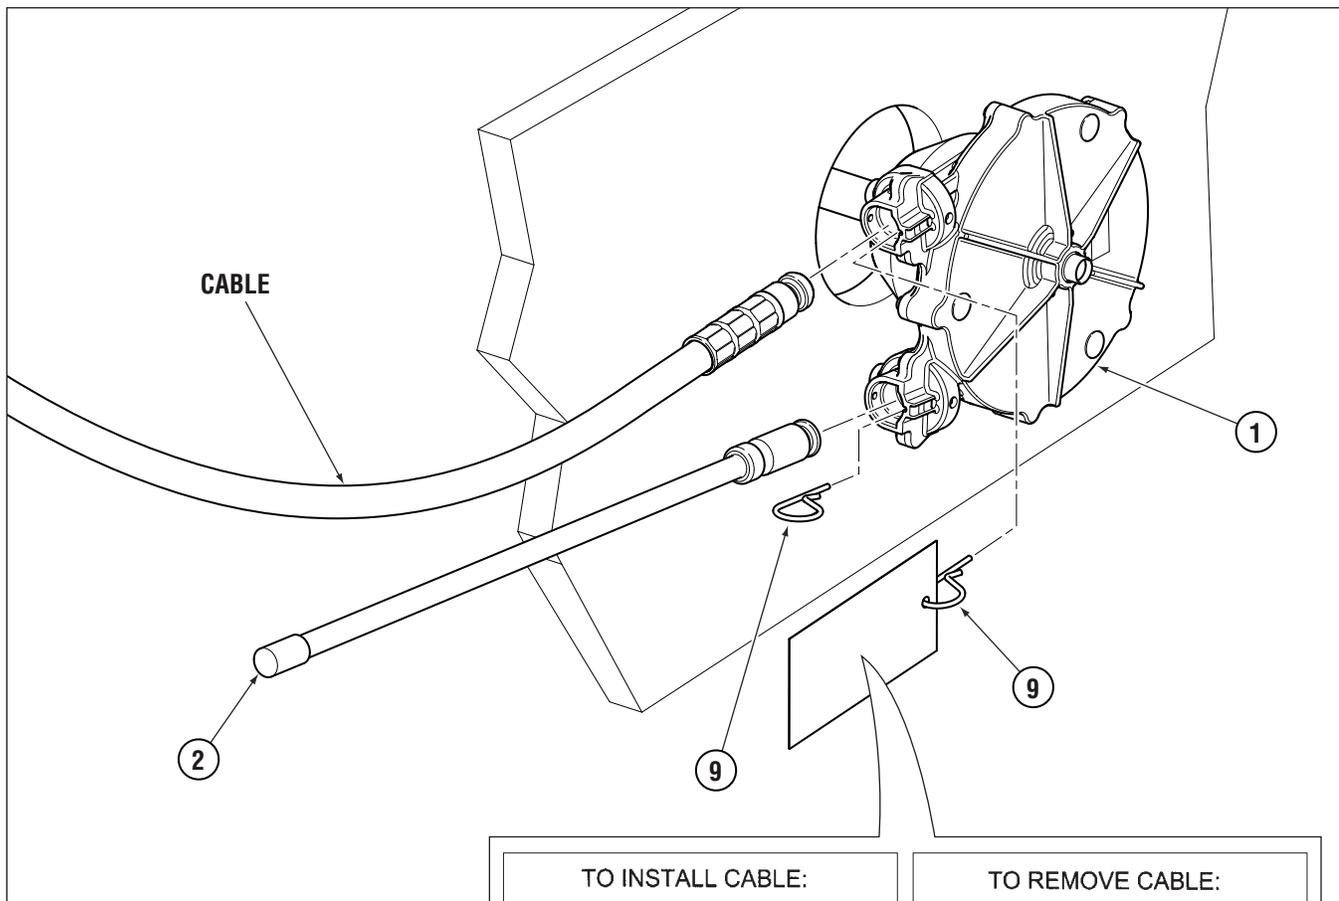

Figure 5.
STEP 2. Remove the protective sleeve from the cable end, making sure that no dirt gets on the lubricated cable end. Feed the cable into the **UPPER** helm spigot until it contacts the internal gears. Then turn steering wheel to draw cable fully into the helm, (see Figure 5). Continue turning wheel until end fitting of cable is entered into the entry spigot, and wheel cannot be turned further. During this you should hear a click as the locking mechanism engages. Turn steering wheel fully in the other direction until it cannot be turned any further, and check that cable end fitting is retained inside the entry spigot.
STEP 5. Feed spent travel tube (item 2, figure 5) over the exposed cable end until you hear it click into place in the helm spigot. Then insert pin as shown in figure 5 until it is fully seated.